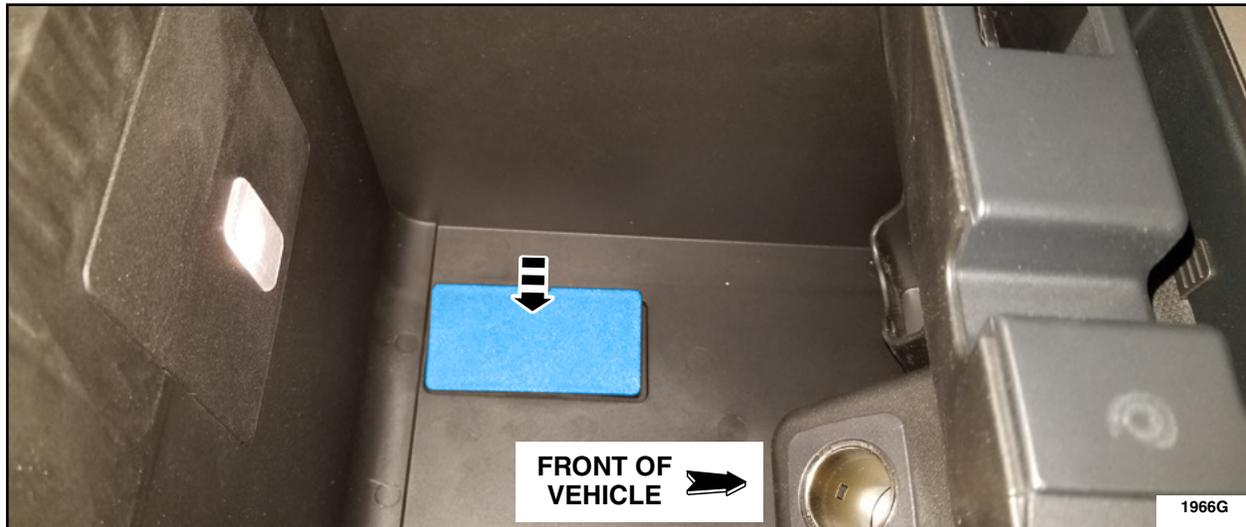

FIGURE 7
8. Snap the MPR cover fully into place and ensure that it cannot be removed by hand. Install the mat. See Figure 7.